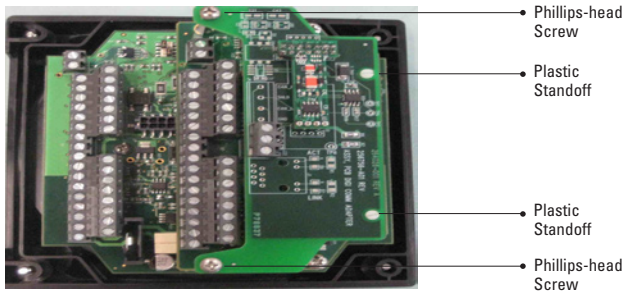

Figure 2
2. Align the 24 pin connector and plastic standoffs into either the 2100 main board or second channel module of the 2100 Series Analyzer, as shown in **Figure 2**.
4. Fasten the front of the board with two screws, as noted in **Figure 2**.